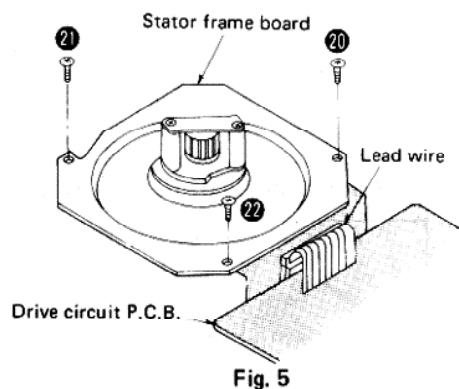

Fig. 5
3. Remove the stator frame setscrews ⑳ ~ ㉒. Then, the stator frame can be removed. (Fig. 5)